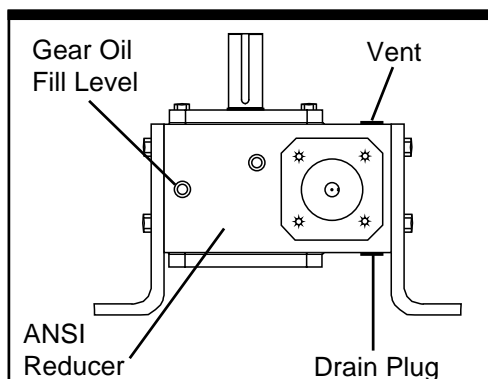

Figure 4-1. Gear Oil Fill Level
- ▶ Check the level of gear oil before draining (see Figure 4-1). If the level is low, check the reducer's input and output shaft seals for leaks.